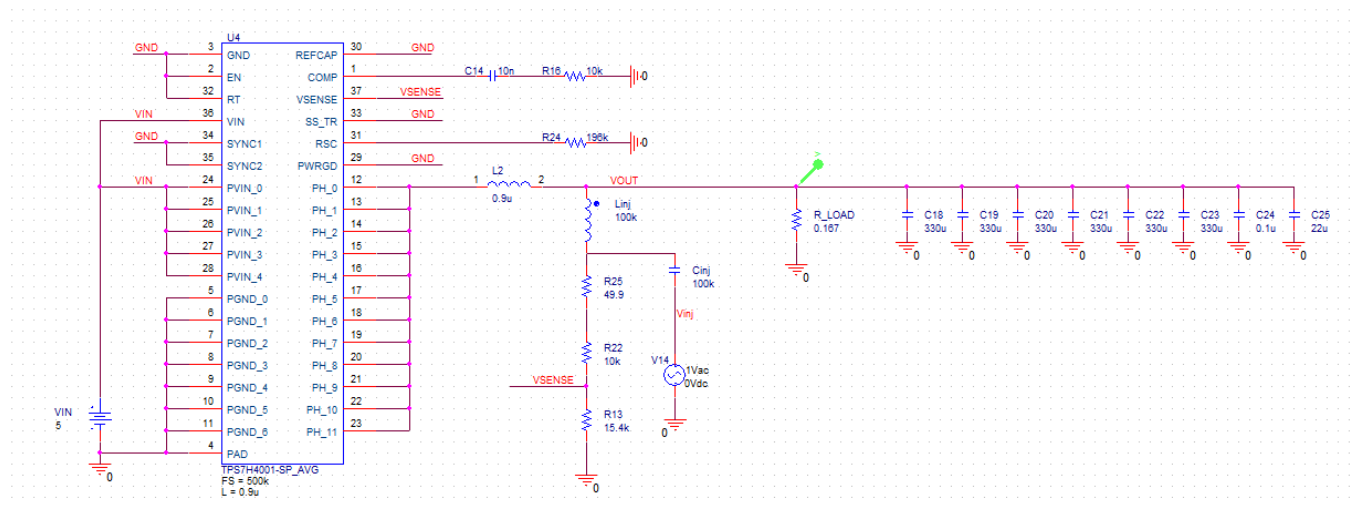

Figure 1. Model Schematic
16. Add the remaining components to complete the schematic as shown in Figure 1.